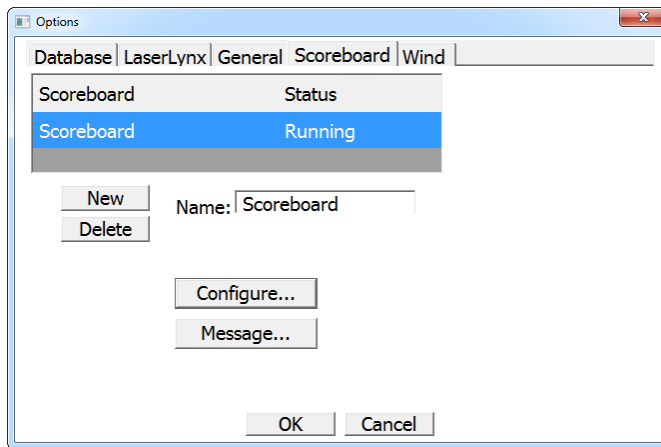

Figure 68: Scoreboard Options
4. Click on the **Scoreboard** tab, and then click **New** (**Figure 68**).
8. Restart the FieldLynx program. Go to **Options > Preferences** and click on the **Scoreboard** tab again to verify the *Status* shows "Running" (**Figure 68**).